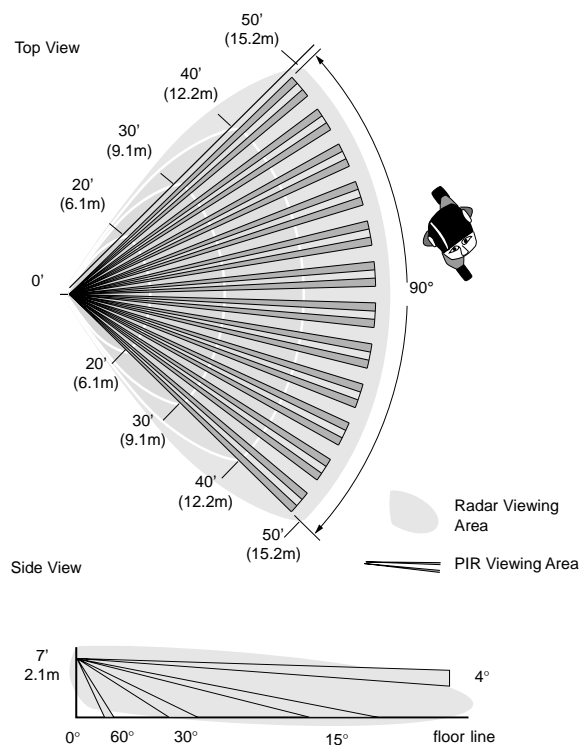

Figure 1. Coverage Patterns
- Mount the detector so the expected movement of an intruder is across the detection pattern. See Figure 1.